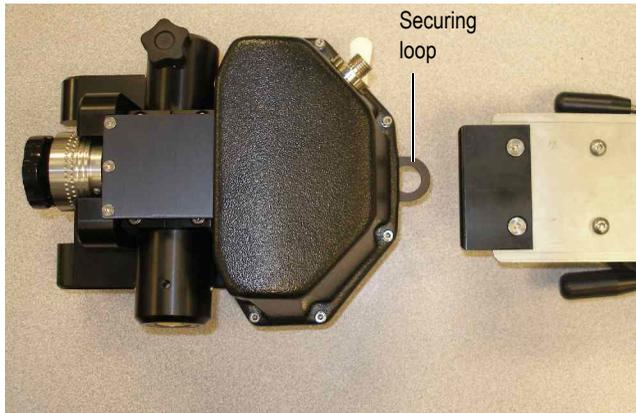

Figure 2-2 The encoder module
5. Position the encoder module against the end of the flexible X-axis in the orientation shown in Figure 2-2 on page 20.